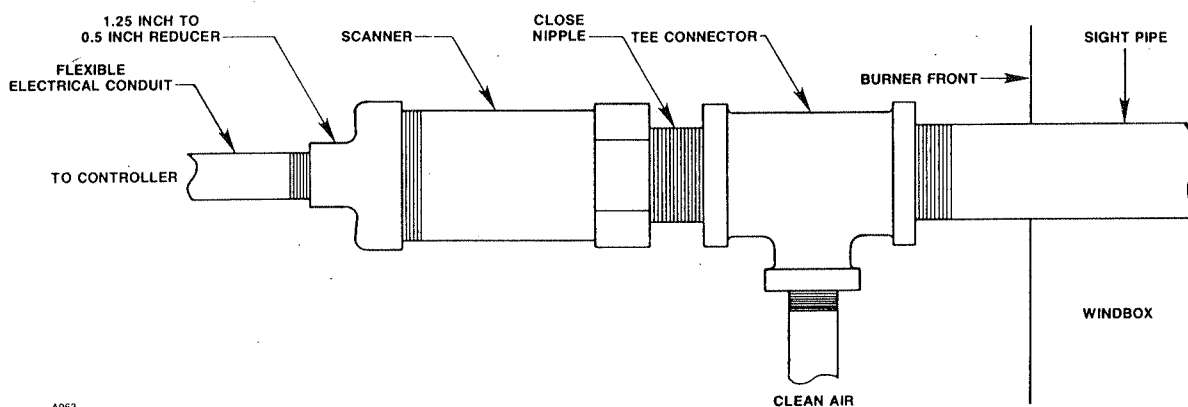

Figure 6—C9506M Scanner Mounting
- Place a reducer tee fitting and close nipple at the end of the sight pipe (refer to Figure 6). Attach the purge air source to the tee. The purge air supply must be